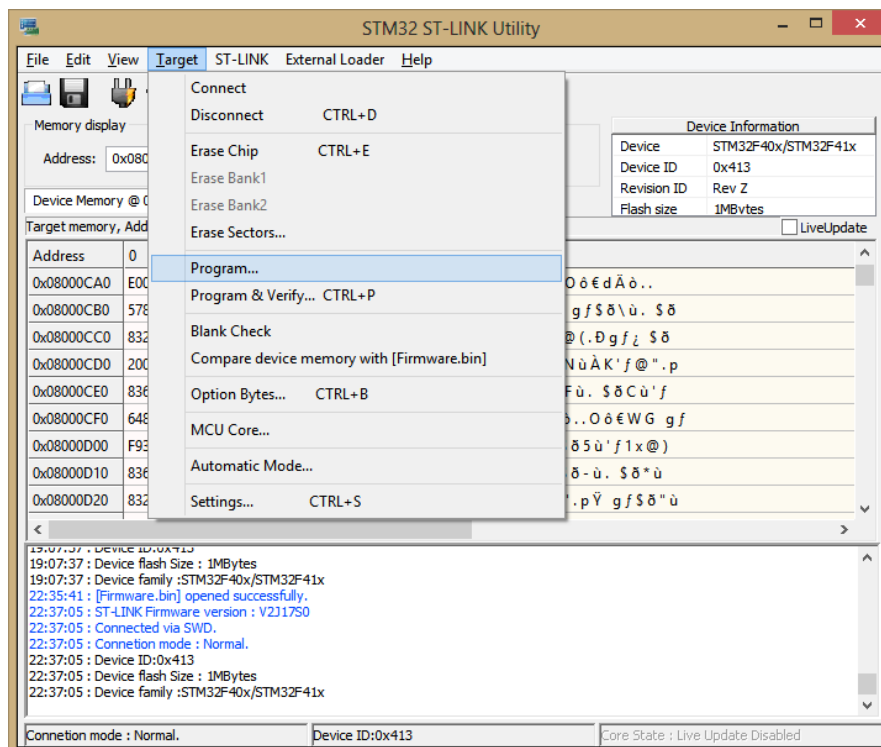

Figure 12: Open the programmer window
2. Open the programmer window (see fig. 12): Start the *STM32 ST-LINK Utility*. In this tool, select *Target → Program...* from menu, click *Browse* and select the Firmware (.bin) file.